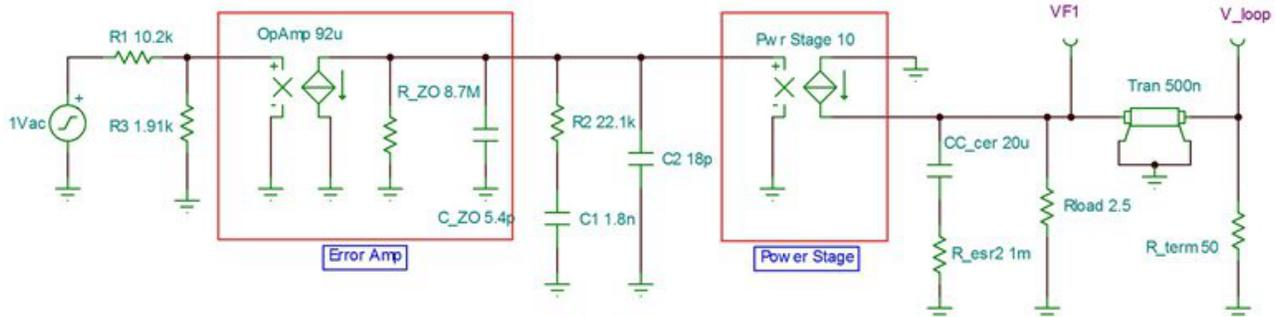

Figure 1. CM Control-loop Model
Figure 1 shows a current-mode (CM) model with the error amplifier, power-stage gain and output filter. The error amplifier looks at the output voltage, compares it to an internal reference voltage, and generates an error signal to the power stage. The power-stage gain block converts the error voltage into output current. Simple voltage-controlled current sources model both gains. Adding a lossless transmission line to the output introduces phase lag, improving accuracy at higher bandwidths (BW's).